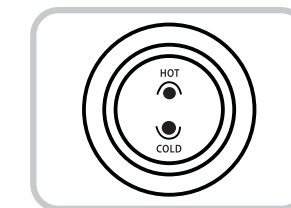

Fig.4
6. Turn ON the hot water switch, wait a couple of minutes and turn ON the cold water switch. Allow the unit to reach the minimum cold and hot water temperatures. This will take approximately 45 minutes and the indicator lights will turn OFF. (Fig. 4)